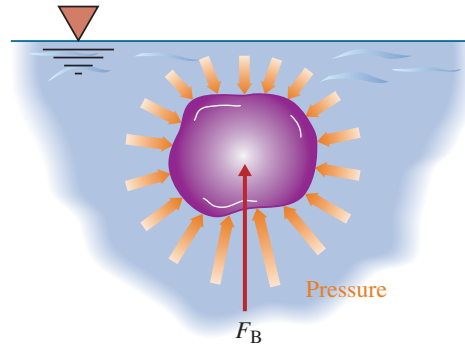

FIGURE 7.18 Buoyancy force acting on a submerged surface.
volume. We will discuss density and other related mass and volume properties in Chapter 9. Buoyancy is another engineering principle where volume plays an important role. **Buoyancy** is the force that a fluid exerts on a submerged object. The net upward buoyancy force arises from the fact that the fluid exerts a higher pressure at the bottom surfaces of the object than it does on the top surfaces of the object, as shown in Figure 7.18. Thus, the net effect of fluid pressure distribution acting over the submerged surface of an object is the buoyancy force. The magnitude of the buoyancy force is equal to the weight of the volume of the fluid displaced. It is given by
where F_B is the buoyancy force (N), ρ represents the density of the fluid (kg/m^3), and g is acceleration due to gravity (9.81 m/s^2). If you were to fully submerge an object with a volume V , as shown in Figure 7.18, you would see that an equal volume of fluid has to be displaced to make room for the volume of the object. In fact, you can use this principle to measure the unknown volume of an object. This idea is demonstrated in Example 7.2. NASA astronauts also make use of buoyancy and train underwater to prepare for the in-orbit repair of satellites. This type of training takes place in the Underwater Neutral Buoyancy Simulator, shown in the accompanying photograph of Figure 7.19. The changes in the apparent weight of the astronaut allows him or her to prepare to work under near-zero-gravity (weightless) conditions.